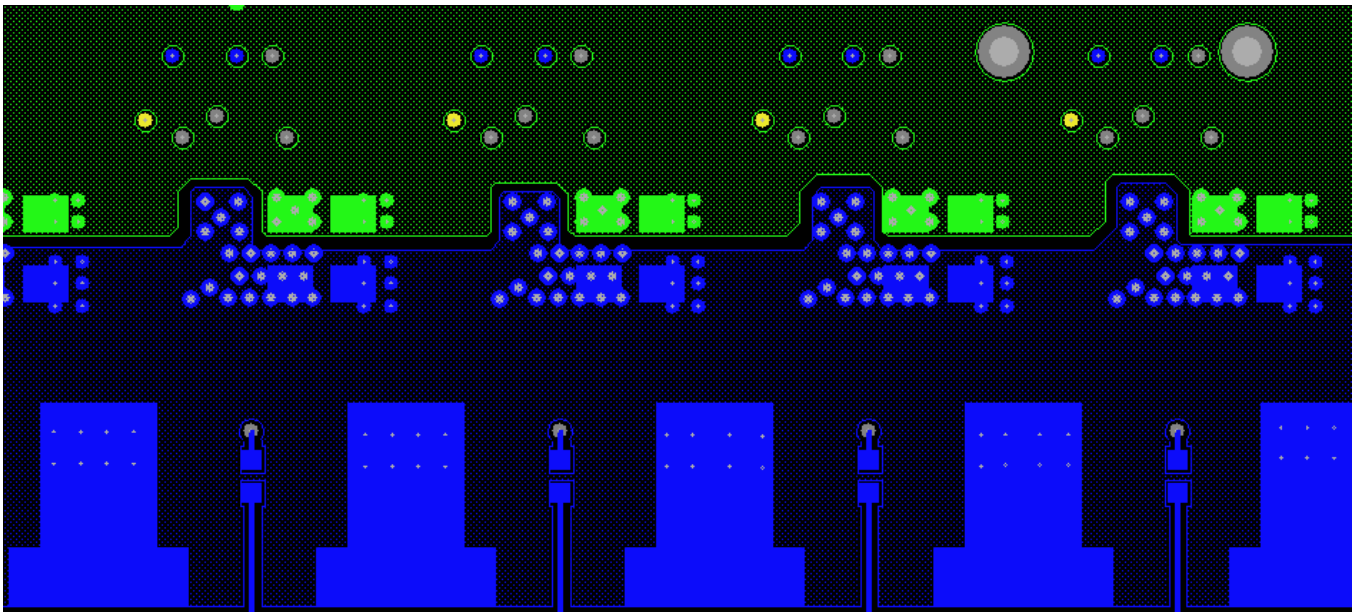

FIGURE 17. MULTIPHASE PCB LAYOUT EXAMPLE BOTTOM LAYER
- Place multiple 10 $\mu$ F or greater ceramic capacitors directly on the device between VIN and GND as indicated in Figure 15 on page 14. This is the most critical decoupling and will reduce parasitic inductance in the power switching loop. This will reduce overall electrical stress on the device as well as reduce coupling to other circuits. Best practice is to place the decoupling capacitors on the same PCB side as the device. For a design with tight space requirements, these decoupling capacitors can be placed under the device, that is, bottom layer, as shown in Figure 17 on page 15.
- The IMON and IREF network and their vias should not sit on the top of the VIN plane. A keep out area is recommended, as shown in Figure 17 on page 15.